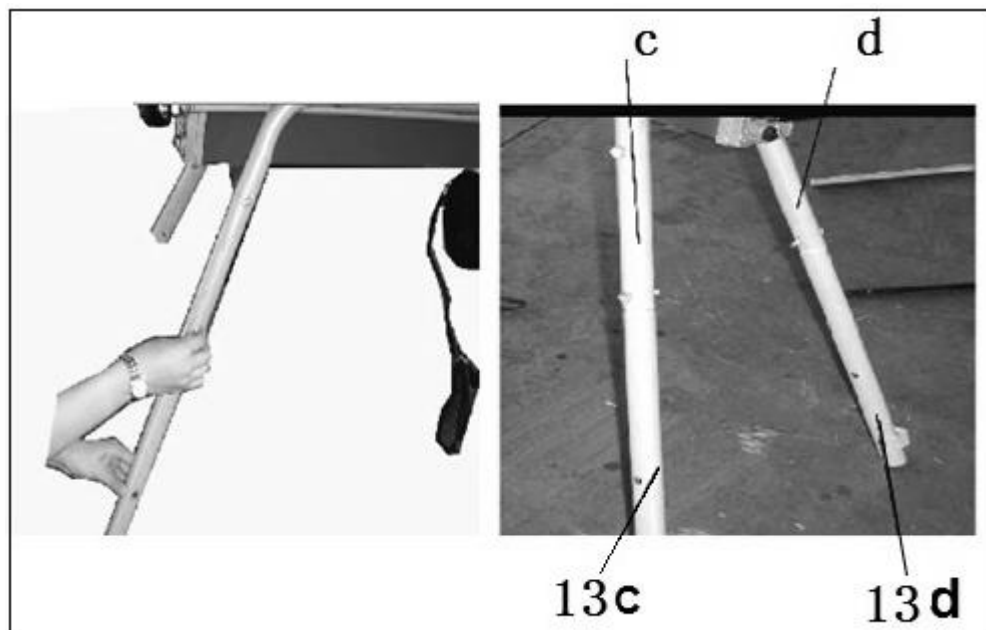

fig.4
c) Connect back stand (13a) to connection pipe (10c) and connect back stand (13b) to connection pipe (10d) by bolts and nuts (fig.4).